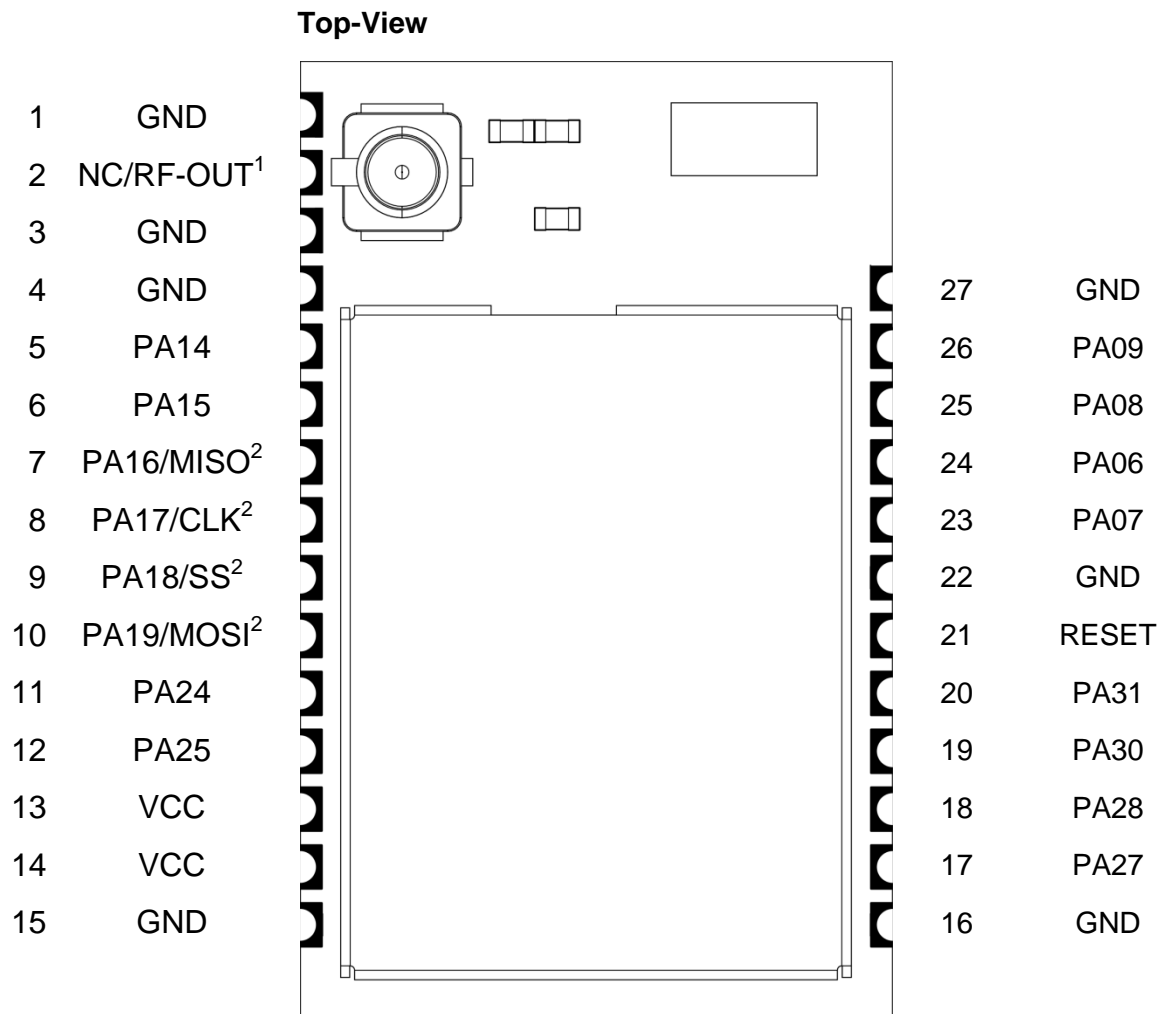

**Figure 3-3: Block diagram deRFsamR21E-23S20 with RF-out pad used**
**Figure 3-3** shows the block diagram of the radio module deRFsamR21E-23S20 with RF-out pad.